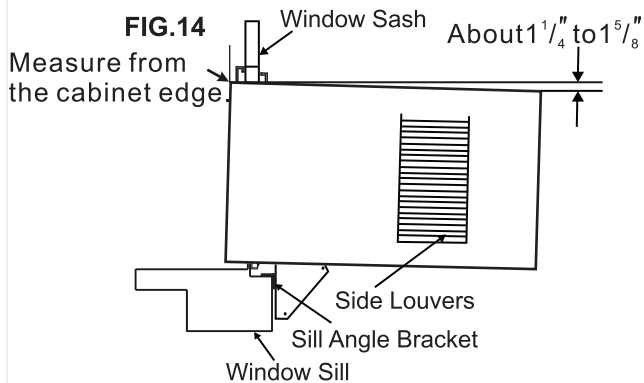

FIG.14
**NOTE:** Check that air conditioner is tilted back about  $1\frac{1}{4}$ " to  $1\frac{5}{8}$ " (tilted about  $3^\circ$  to  $4^\circ$  downward to the outside). After proper installation, condensate should not drain from the overflow drain hole during normal use, correct the slope otherwise (Fig. 14).
**NOTE:** Check that air conditioner is tilted back about  $1\frac{1}{4}"$  to  $1\frac{5}{8}"$  (tilted about  $3^\circ$  to  $4^\circ$  downward to the outside). After proper installation, condensate should not drain from the overflow drain hole during normal use, correct the slope otherwise (Fig.14).